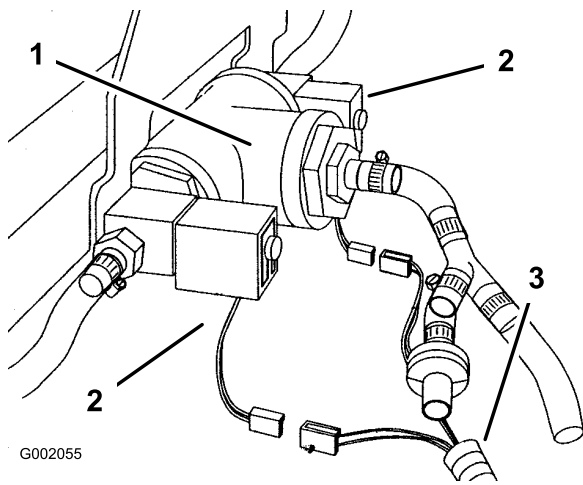

Figure 20
- Locate the wiring harness connector furnished with the vehicle for the foam marker boom solenoid at the center section of the boom (Figure 20).
3. Plug the harness connectors into the boom solenoids at the mixer tee assembly. Plug the connector with the blue wire to the right solenoid and plug the connector with the orange wire to the left solenoid (Figure 20).